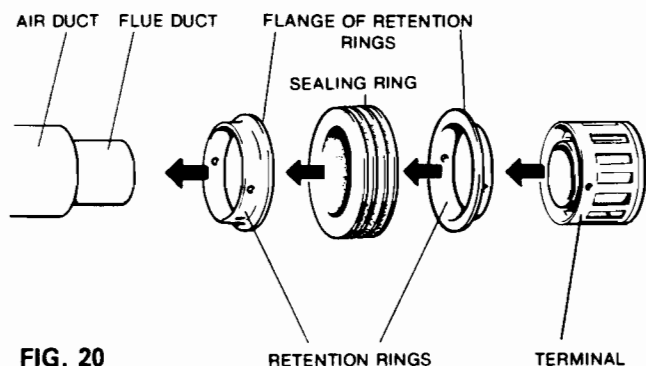

FIG. 20
- c) Assemble the retention and sealing rings by sliding one retention ring over the air duct followed by the sealing ring, and then the remaining retention ring, as shown in (Fig. 20) leave loose. Fully locate the ends of both ducts into the terminal.